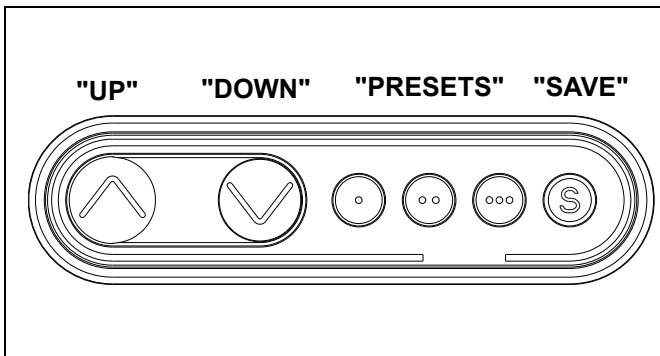

Figure 39
1. Press "UP" or "DOWN" buttons to raise or lower height as desired. (See Figure 39)
1. Adjust height until desired preset level is reached using "UP" and "DOWN" buttons. (See Figure 39)
2. Press "SAVE" button. (See Figure 39)
3. Press one of three preset buttons (., .. or ...) to save preset position. (See Figure 39)